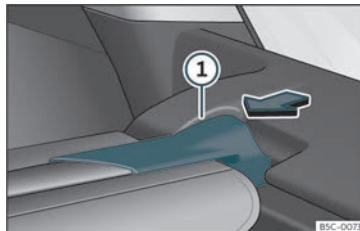

Fig. 119 In the luggage compartment: removing the shelf.
- Press the rear shelf support»» **Fig. 119** ① in the direction of the arrow.
- Engage the support of the rear shelf »» **Fig. 119** ① into the housing on the other side.